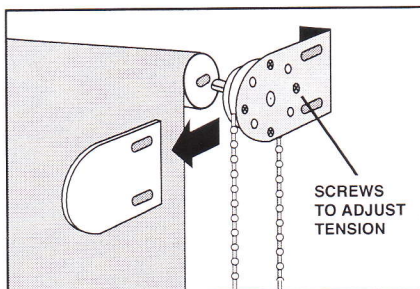

Fig 9
If chain tension is too tight (chain is difficult to pull), slide off bracket cover and loosen four (4) screws; turn counter clockwise. See (Fig. 9).
If chain tension is too loose (chain pulls too easily), slide off bracket cover and tighten four (4) screws; turn clockwise. See (Fig. 9).